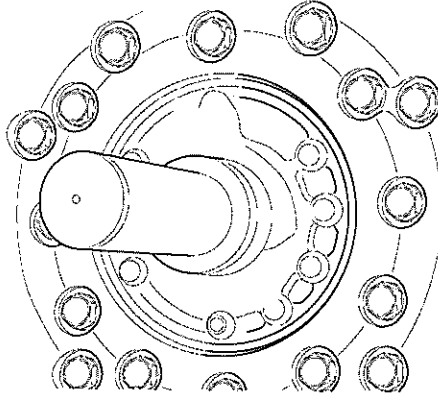

Fig 14 Mounting sleeve
22.1 Slightly oil seal ring and drive in using mounting sleeve (Table 1, Ser 6) (see Fig 14).
- 24.1 Lightly lubricate seal ring and insert using mounting sleeve (see Table 1, Ser 6) (see Fig 14).